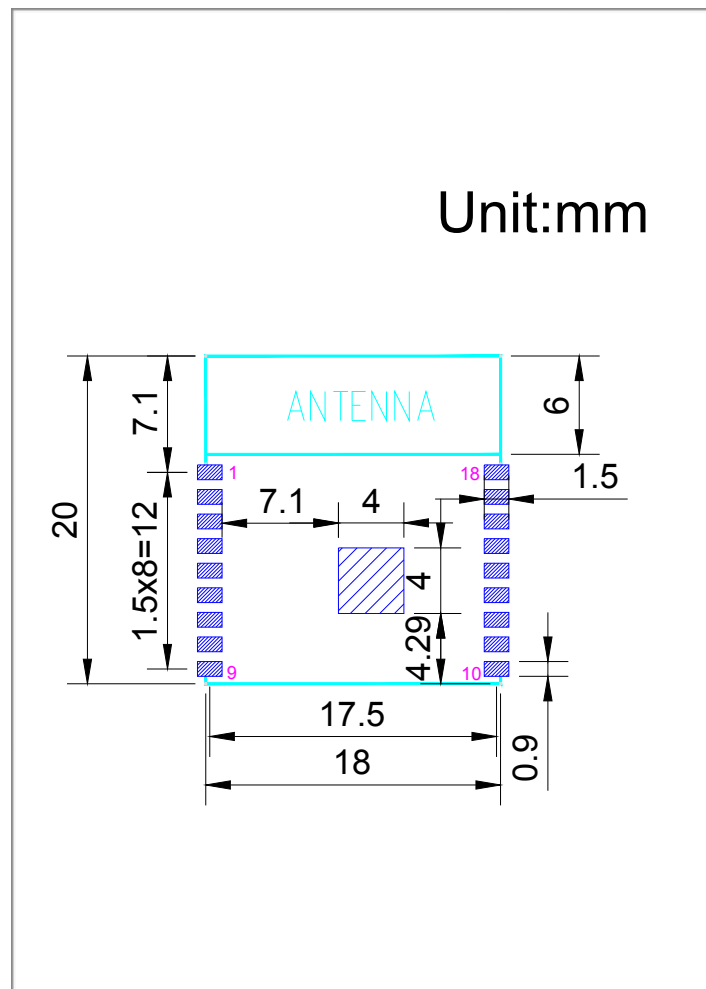
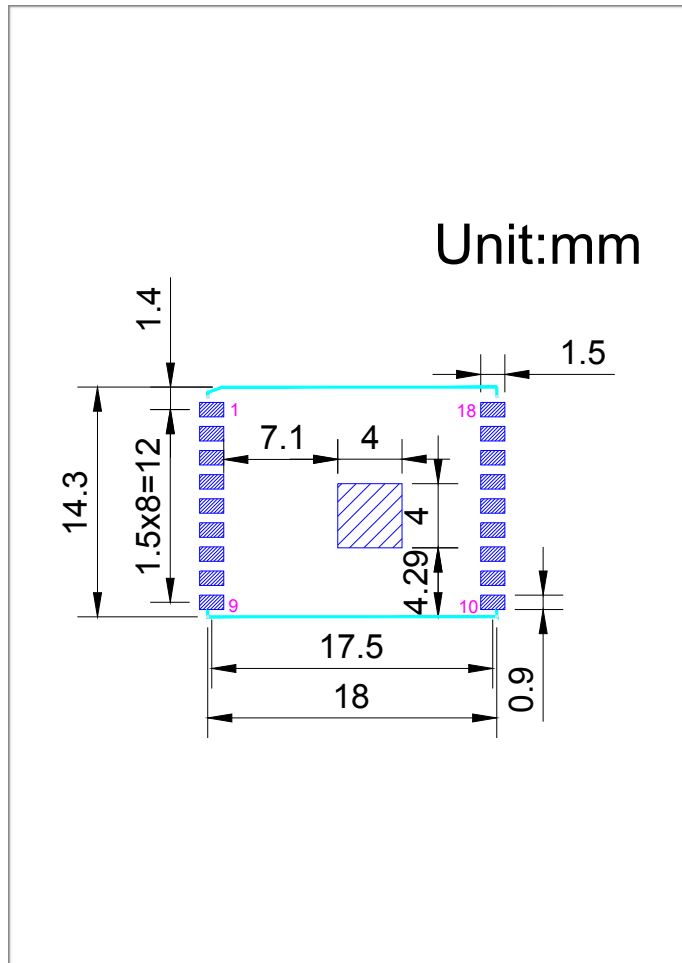

Figure 8-1. Recommended PCB Land Pattern of ESP-WROOM-02D
Figure 8-2. Recommended PCB Land Pattern of ESP-WROOM-02U
- Figures for recommended PCB land patterns with all the dimensions needed for PCB design. See Figure 8-1 and Figure 8-2.
- Source files of recommended PCB land patterns to measure dimensions not covered in Figure 8-1 and Figure 8-2. You can view the source files for ESP-WROOM-02D and ESP-WROOM-02U with Autodesk Viewer.